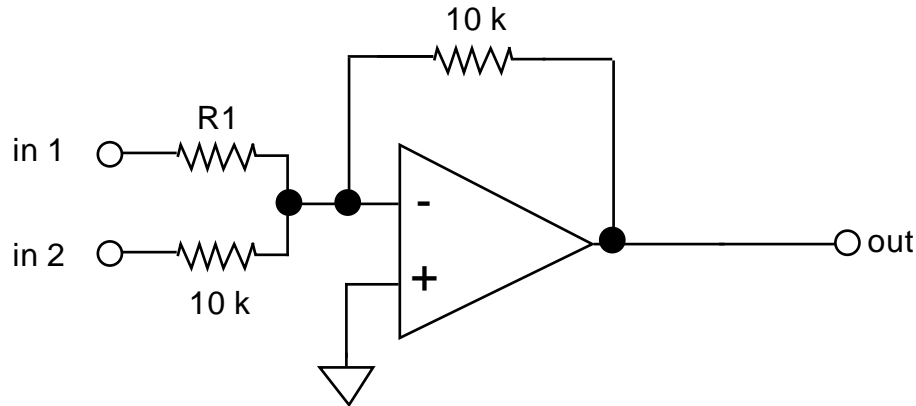

Figure 7-5 Summing Amplifier
* Build the circuit shown in Figure 7-5. Choose $R_1 = 10\text{ k}$.